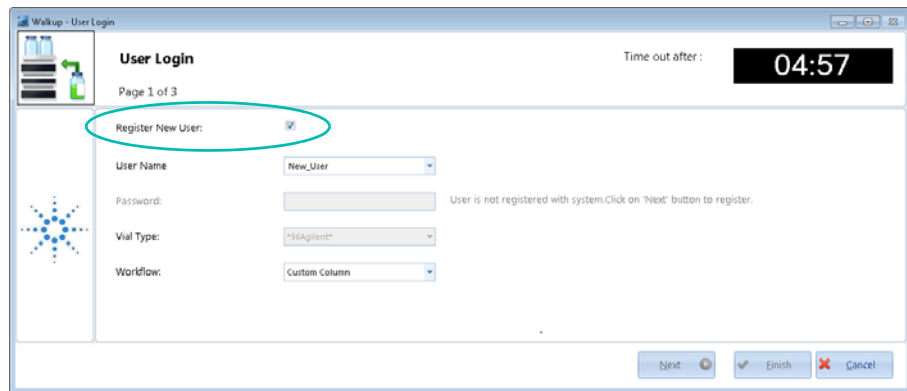

Figure 18 Register New User option in the User Login (Page 1 of 3)
- a Mark **Register New User** (see Figure 18).